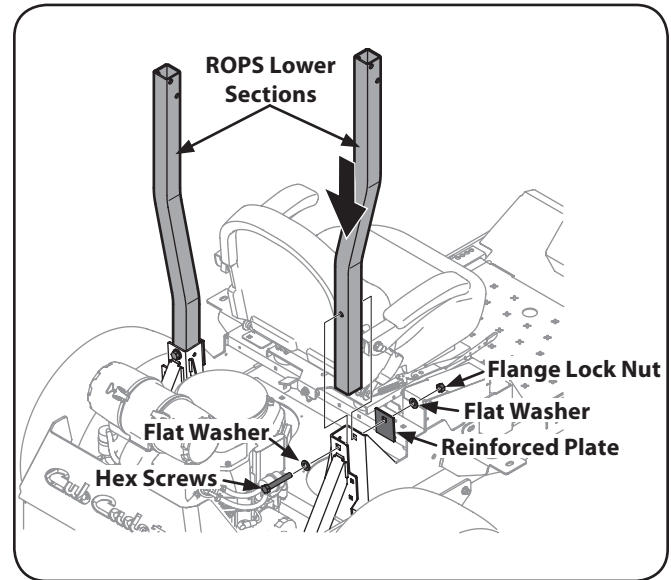

Figure 3-4
- Insert each of the ROPS lower section tubular posts into the brackets welded to the machine main frame. See Figure 3-4.
- Insert the hex screws (one per side) through the flat washer then into the frame brackets and ROPS posts from the rear toward the front. See Figure 3-4. Alternately from the front toward the rear if access is restricted.
- Install the reinforced plates, flat washers and flange lock nuts, but do not tighten. See Figure 3-4.
6. Tighten the frame mounting hardware to 80-90 lb.-ft. torque. See Figure 3-4.